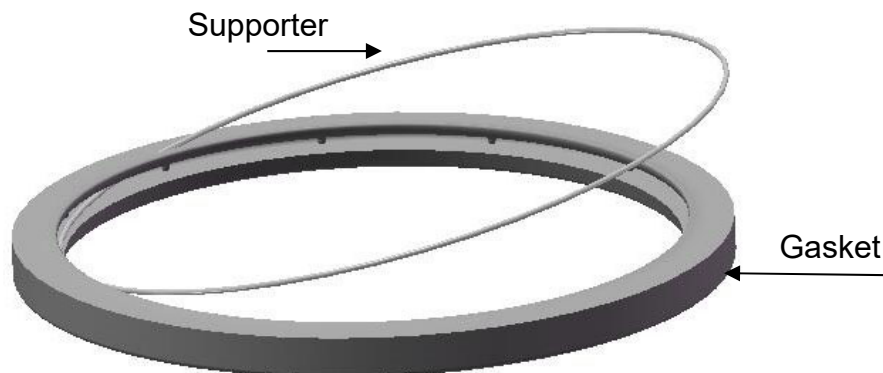

Figure 96
1. Remove the old gasket from the door, and then take out the gasket o-ring from the gasket. Install the gasket o-ring to the new gasket as Figure 96.